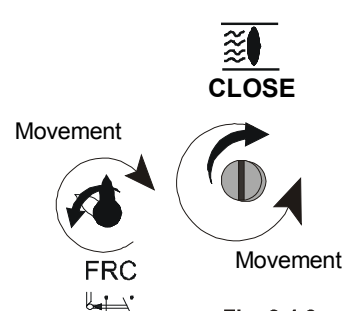

Fig. 8.4.3
- Turn **U spindle** clockwise (Figure 8.4.3) until **Z spindle** turns Counter-clockwise (At this moment FRC microswitch triggers). Just before FRC microswitch was tripped, red arrow of **Z spindle** should be pointed to vertical: When **Z spindle** (Red arrow) turns to left the FRC microswitch is tripped.